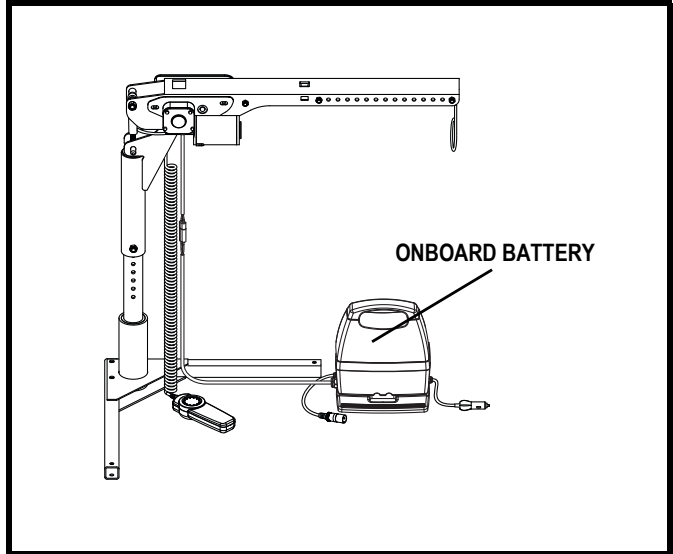

Figure 6. Onboard Battery Installation
1. Insert the onboard battery into the battery pack base, making sure that the connector on the bottom of the battery aligns and fully connects with the mating connector inside the battery pack base. **See figure 6.**
2. Connect the male connector on the battery cable to the female connector at the base of the Silver Boom 250. **See figure 6.**